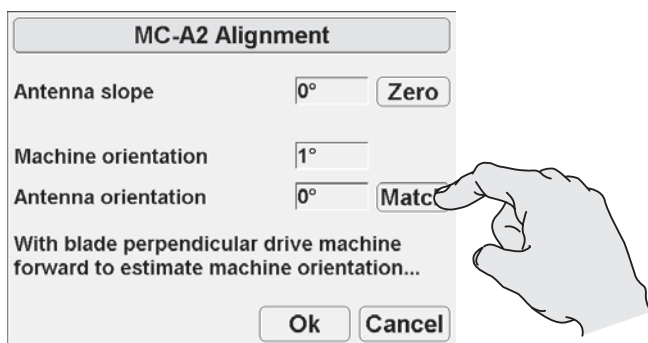

Figure 6-8. Orient Machine and Antenna to Same Alignment
2. Drive the machine several feet forward and in a straight line. System Five-3D will calculate a heading during travel and display the result in the *Machine orientation* field (Figure 6-8).
3. Once the machine orientation has been determined (usually 10 to 15 seconds), press **Match** to orient the antenna to the machine (Figure 6-8). Press **Ok** to complete the calibration.